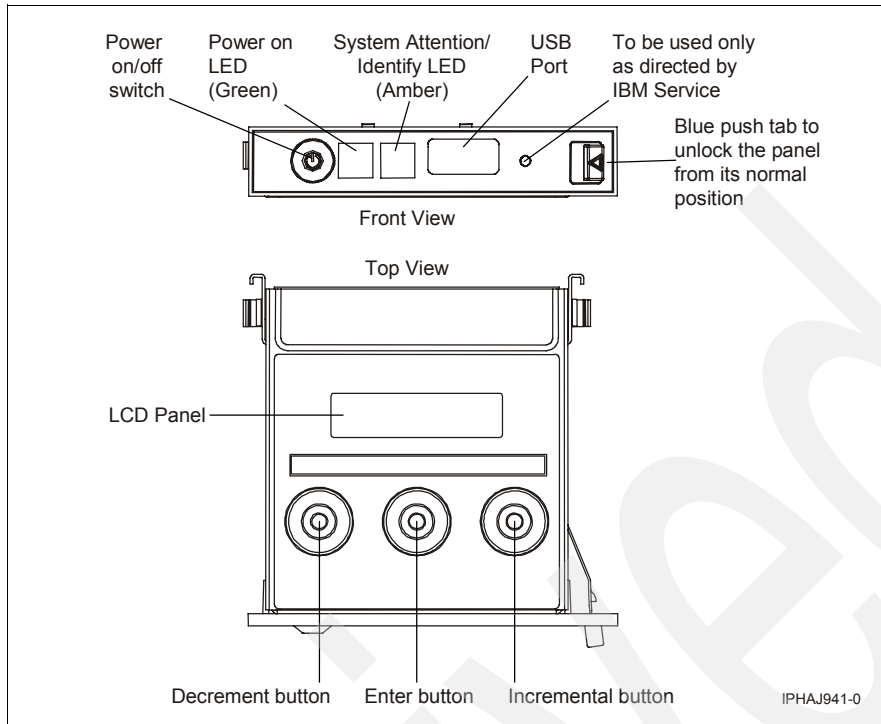

Figure 3-10 Control Panel view
2. Before you press the power on/off switch on the control panel, as shown in Figure 3-10 on page 199, ensure that power is connected to the system unit as follows:
Note: Although we do not discuss service functions that are provided through the control panel in this chapter, we do show, in Figure 3-10, the top view of the control panel as it looks when positioned to perform service-related functions or to see 01 V=F. Pushing the blue tab on the right of the panel shown in the front view disengages the panel so that you can access the buttons shown in the top view. For additional information about the control panel, refer to 1.3, “Power 520 and Power 550 operations (control panel)” on page 20.
3. Press the power on/off switch button, as shown in the front view of the control panel in Figure 3-10.